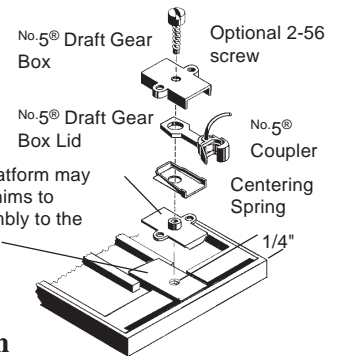

Fig.1
2. Use screws (metric) that come with model to secure No.5® Coupler assembly. Usually there are two screws for each coupler assembly, one for each side mounting lug. If screws are missing or you wish to convert to a single 2-56 screw, drill and tap a 2-56 hole 1/4" from edge of model on centerline. Use a 2-56 screw of appropriate length to secure No.5® Coupler. See Fig.1.